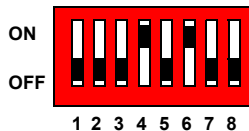

FIGURE 3. INITIAL DIP SWITCH SETTINGS
Step 1: Switch on bit 4 and bit 7 of the DIP-switch. Leave all other bits off, see Figure 3.